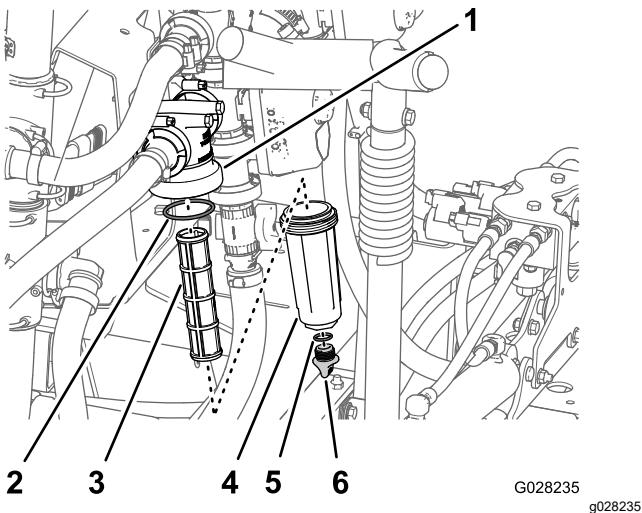

Figure 148
2. Align a drain pan under the pressure filter (Figure 148).
3. Rotate the drain plug counterclockwise and remove it from the bowl of the pressure filter (Figure 148).
4. Rotate the bowl counterclockwise and remove it from its filter head (Figure 148).
5. Remove the old pressure-filter element (Figure 148).
6. Check the O-ring for the drain plug (located inside the bowl) and the O-ring for the bowl (located inside the filter head) for damage and wear (Figure 148).
7. Install the new pressure-filter element into the filter head (Figure 148).
8. Install the bowl onto the filter head and tighten by hand (Figure 148).
9. Install the plug into the bowl and tighten by hand (Figure 148).